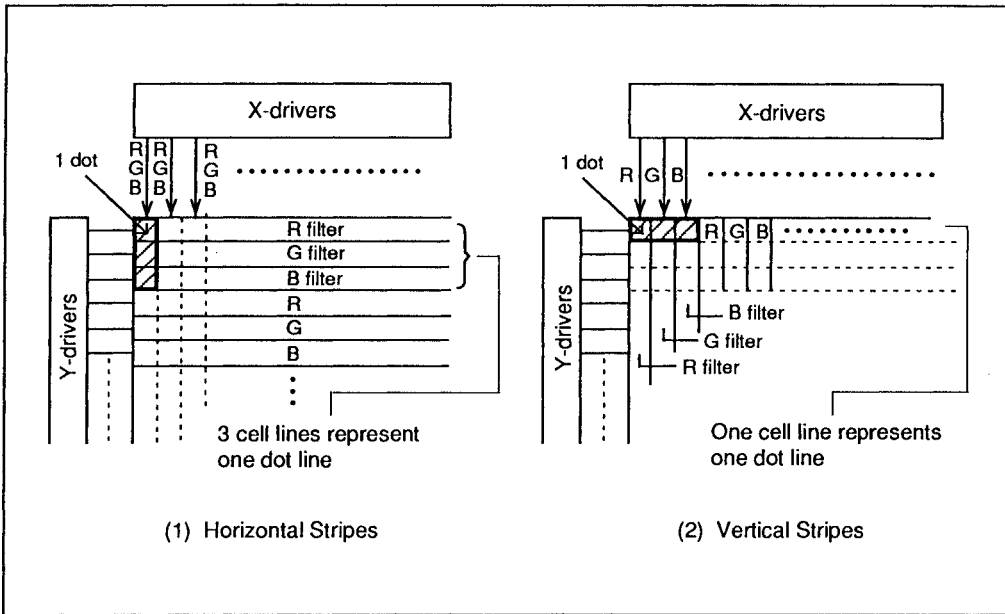

Figure 6-3 Stripes in 8-Color Display Modes
In the 8-color display modes, the LVIC displays eight colors using red (R), green (G), and blue (B) filters placed on liquid-crystal cells. The eight colors are the same as those provided by the CRT display. For example, yellow and blue on the CRT display screen are also displayed as yellow and blue on the LCD screen. As shown in figure 6-3, the 8-color display has two stripe modes; a horizontal stripe mode and a vertical stripe mode. The LVIC arranges RGB data horizontally with horizontal filters in the former mode, and vertically with vertical filters in the latter mode. Three cells represent one dot in both modes.